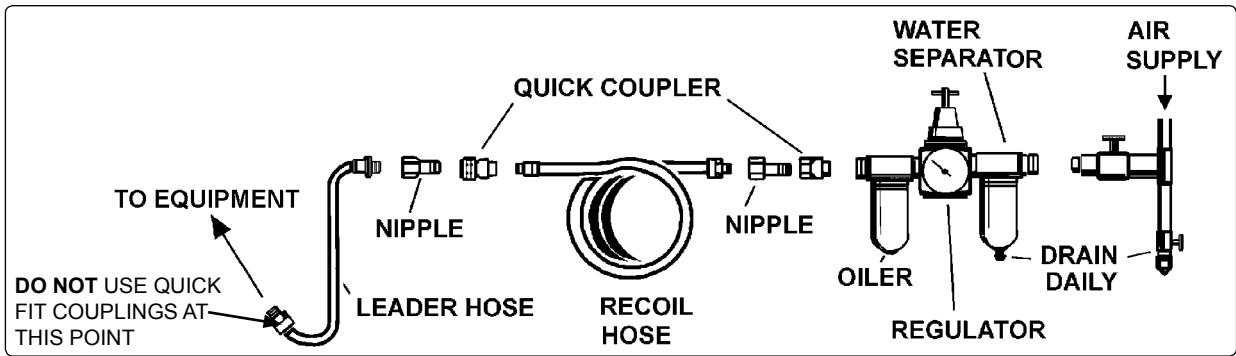

fig. 2
- ✓ Always connect a leader hose to the rivetter with a permanent coupling, see fig.2.
The recommended air system is shown in fig. 2.